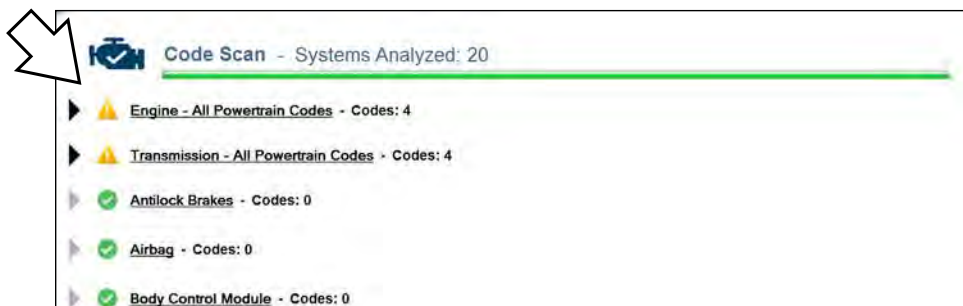

Figure 4-17 Code Scan systems analyzed result total
Selecting **Code Scan** starts an active scan of vehicle control modules, and opens the Code Scan results screen (Figure 4-17). A green progress bar is shown at the top of each section indicating the active scanning progress. Once completed, the results are displayed by system category. Depending on the vehicle, the Code Scan option (if supported) may be available from the menu.
- **The total number of systems (modules) detected** (Figure 4-17).
- Quick reference indicators are used to show system code status (Figure 4-17):